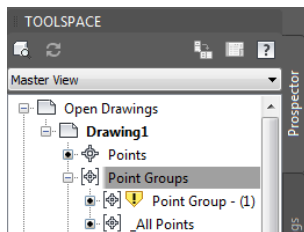

Figure 2-45 The symbol corresponding to the **Point Groups** indicating the out of date point group
A point group is called out of date if you add or delete points, or modify properties such as elevation or description of points included in the point group. The out of date point groups are indicated by a yellow symbol displayed in the **Prospector** tab on the left of the point group  name, as shown in Figure 2-45. The **Point Group - (1)** is out of date as indicated by the symbol on the left. This shows that some changes have been made in the point group.